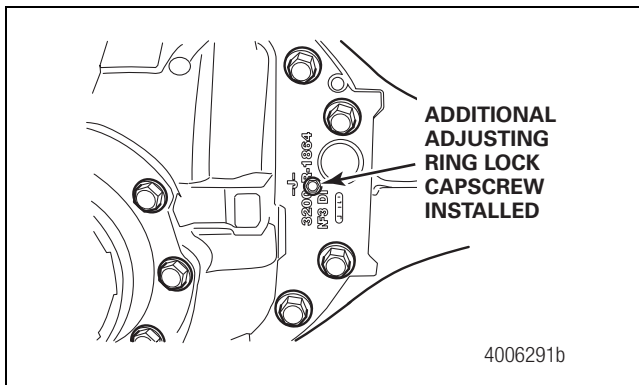

Figure 6
12. Apply Loctite® 242 threadlocker to the self-tapping adjusting ring lock capscrew provided in the kit. Install the adjusting ring lock capscrew into the drilled hole and tighten it to 25 lb-ft (34 N•m). Figure 6. **ⓘ**